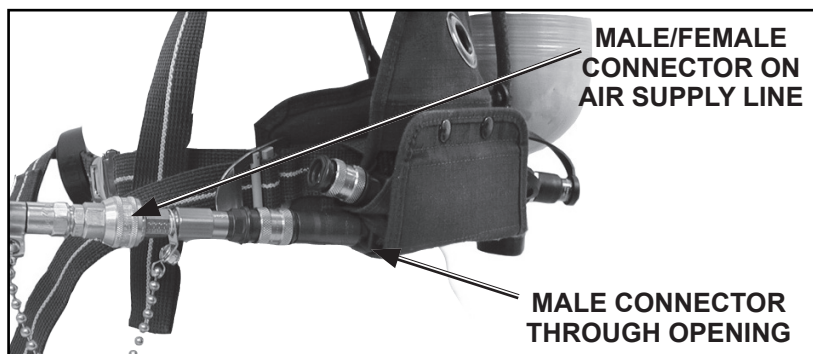

FIGURE 10
- c) Connect the adapter on the air supply line to the male connector and check for proper engagement. See FIGURE 10.